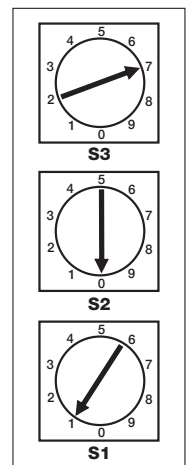

FIGURE 4a
2. M4-DMX units will have rotary switches on the PCB on the side towards the power supply. Using a small screwdriver, set the following address on the switches (See FIGURE 4a).
SETTINGS FOR FIGURE 4A